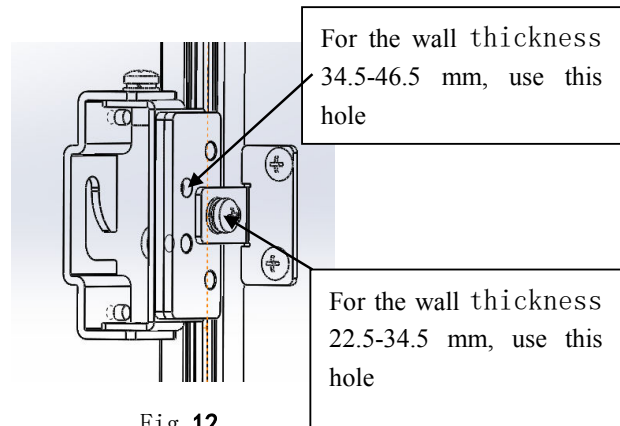

Fig. 12
2.5 Fix striker back brace with M5X12 as Fig. 12.